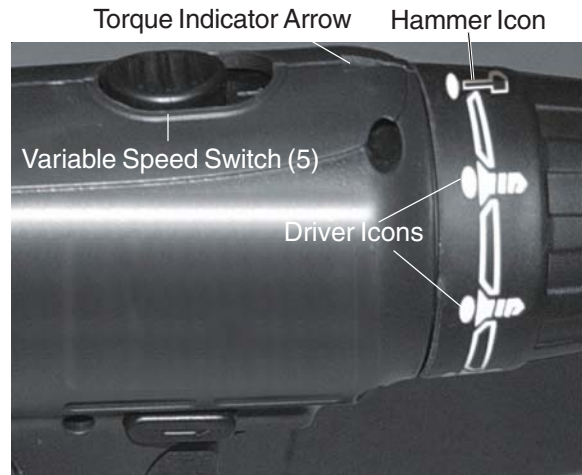

FIGURE 5
3. Set the speed by adjusting the Variable Speed Switch (5) to either 1 (low) or 2 (high). High speed is generally used for drilling applications and low speed is generally used for screw driving applications. See **FIGURE 5**.
4. Set the Torque by aligning the desired Torque setting with the Torque Indicator Arrow. See **FIGURE 5**. There are seven Torque setting icons. They range from low driving settings, to drill settings, to the impact or hammer drill setting. When using the Hammer Drill setting, line up the Hammer Icon with the Torque Indicator Arrow as shown in **FIGURE 5**. When using the Hammer Drill as a driver, use the Driver Icons, also shown. The Drill Icon is not shown in figure 5 but looks like a drill bit. Higher torque settings (Drill Icon or Hammer) will break the heads off of screws. Only use the Drill setting to bore or drill into an object. The Hammer Setting works well when drilling/chipping into concrete. It is generally used to bore holes with the purpose of breaking up material.